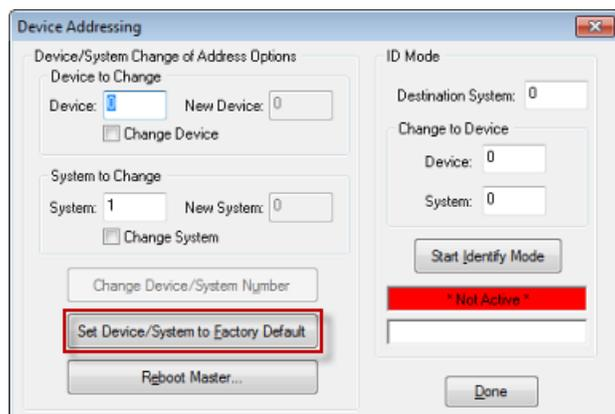

FIG. 28 Device Addressing dialog
- Click the **Set Device/System to Factory Default** button (FIG. 28):